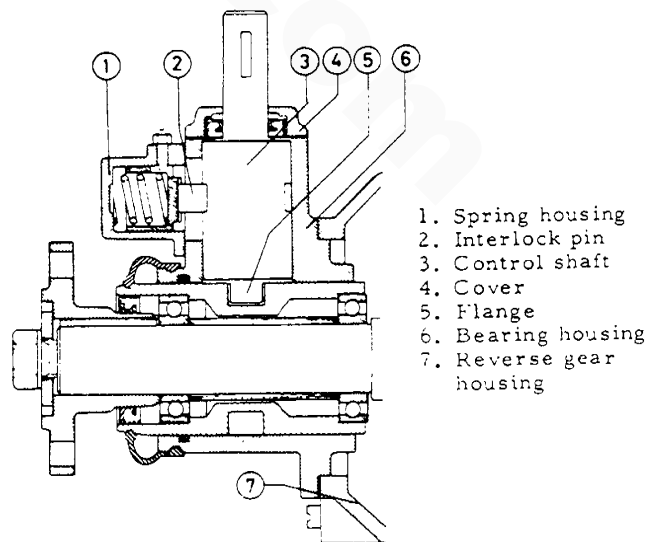

Fig. 3. Rear section of reverse gear
2. Remove the bolts which hold the bearing housing (6, Fig. 3) to the housing (7). Pull the bearing housing aft several millimeters (this is facilitated by carefully engaging the lever), insert a knife between the sealing surfaces and loosen the basket carefully so that it remains in contact with only one of the sealing surfaces.
- a. Remove the spring housing (1, Fig. 3) and lift out the locking plunger (2).
- b. Remove the cover (4) without pulling it off the shaft.
- c. Lift the shaft (3) with cover (4) from the housing and turn the shaft 180° (half a turn). Turn also the flange (5) half a turn and fit the shaft.